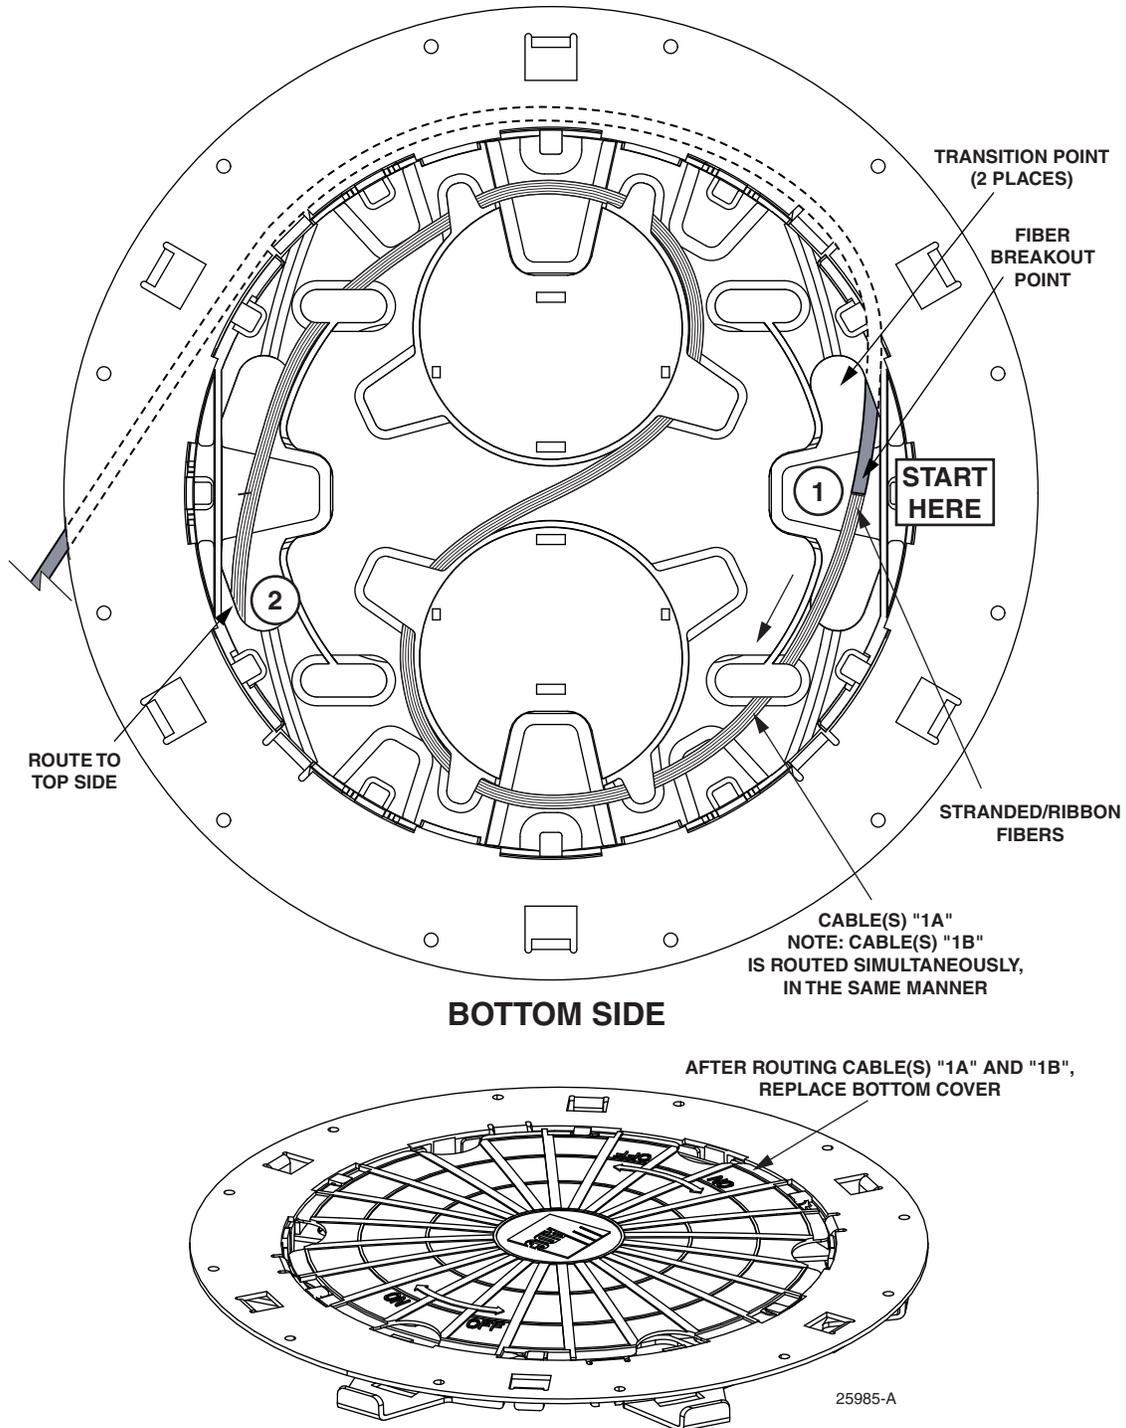

Figure 18. Cable(s) "1A" Routing, Bottom Side (Counter-Clockwise Roll-Up Procedure), continued
2. Flip the tray over and continue routing cable(s) "1A" (and "1B") around the spools and back to the top side, as shown in Figure 18. After routing cable(s) "1A" and cable(s) "1B" on bottom side, replace bottom cover.